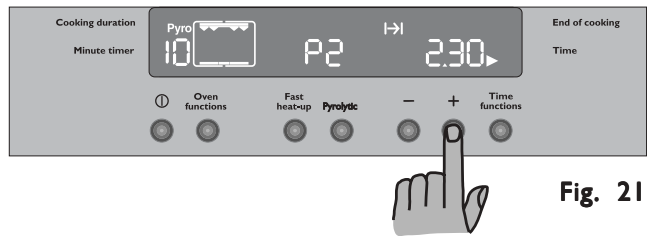

Fig. 21
- The Cooking Duration symbol $\left| \rightarrow \right|$ will flash for 5 seconds; during this time push “-” or “+” buttons to select the pyrolytic 1 (P 1) or pyrolytic 2 (P 2) function (Fig. 21).